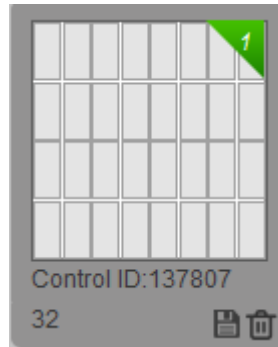

Figure 3-10
Step 5 Click  at the top right corner of every scheme, and thus add the scheme to tour list.  becomes a number, representing its sequence in tour list, as shown in Figure 3-10.